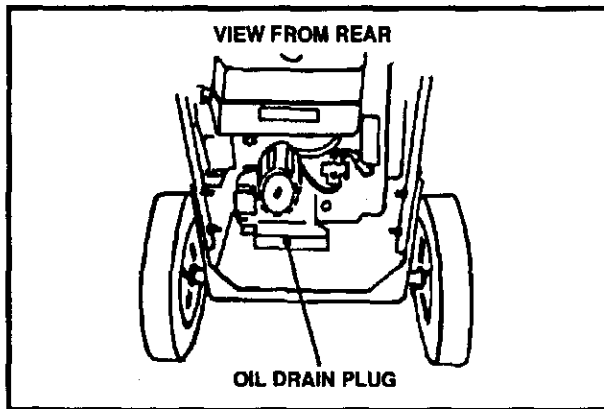

FIG. 10
- Remove the oil drain plug (See Fig. 10) and drain the oil into a flat pan.